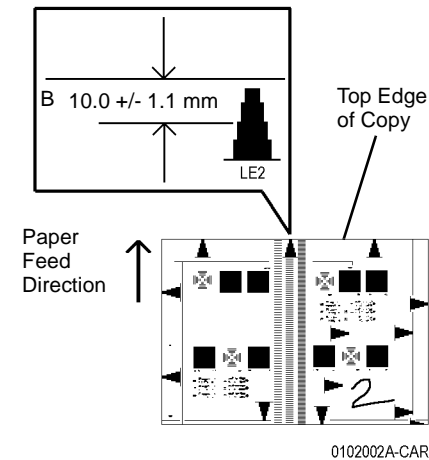

Figure 2 Checking Top Edge Registration of DADF
- d. On side 1 of copy 2 measure and record the distance between the top edge and the reference line and write **B** next to this measurement (Figure 2).